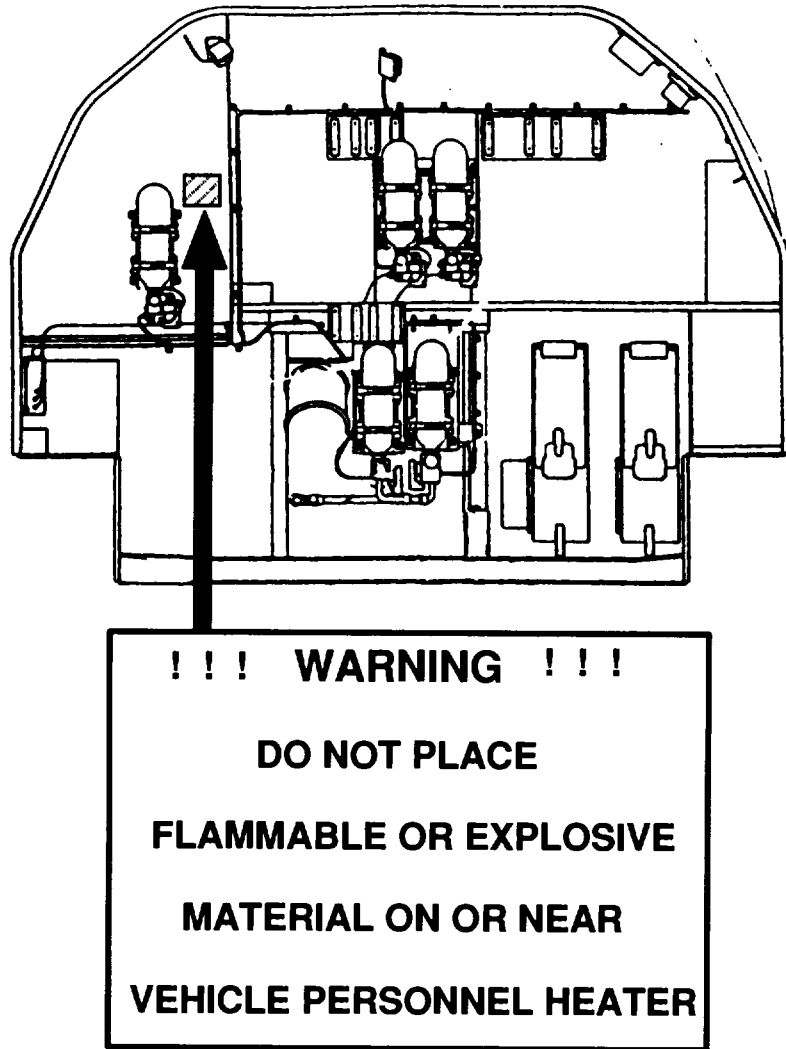

Figure 8
27. Remove protective backing from label \* 12268539 and position on APU Bulk Head Wall as shown in Figure 8.